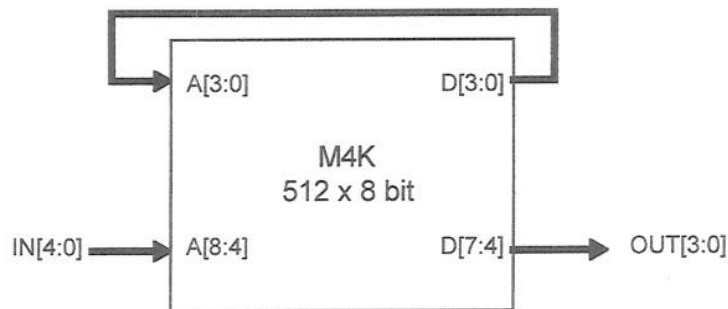

Figure 3.1
3. Figure 3.1 shows the schematic of a 5-input, 4-output finite state machine (FSM) implemented using a 4k bit memory block (M4K) in Altera's Cyclone II FPGA. The input $IN_{4:0}$ to the FSM is one-hot encoded. The M4K is configured as a 512 x 8 ROM with registered address inputs. The contents of some of the ROM locations are shown in Figure 3.2. All the other locations contain the value 0.